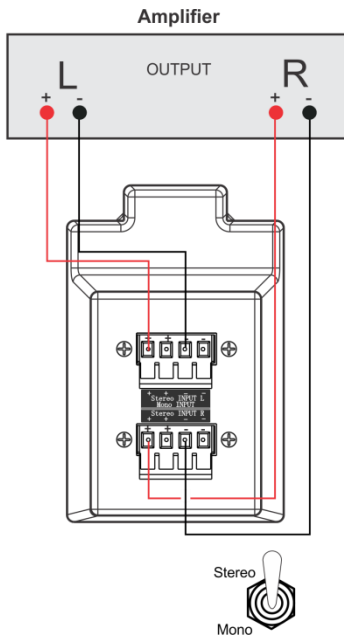
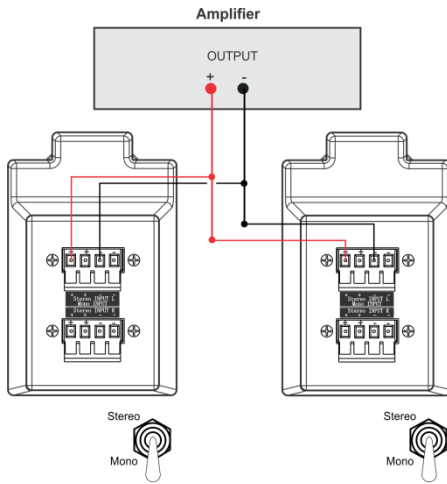

Figure 6: Stereo Layout
Figure 7: Mono Layout
- If the size of the room only requires a single speaker, we recommend using the mono/stereo speaker for speech or music as required (see Figure 6 and Figure 7)
- If the size of the room requires more than one speaker, use two or more mono speaker models (see Figure 7)